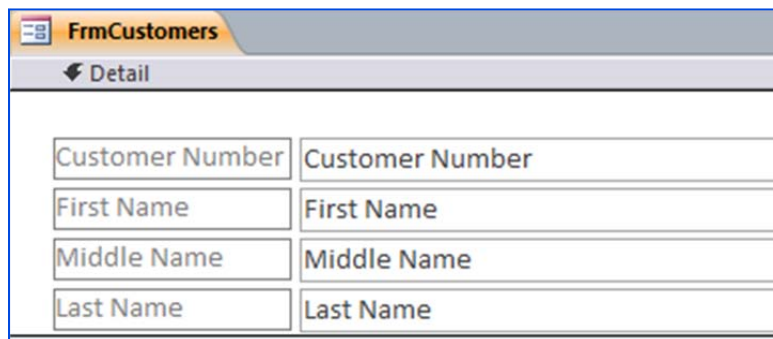

Fig. 2.3.9. Form in Design View
3. Click *Home ribbon -> Views* tab -> *View* and select *Design View* from the dropdown to open the form in *Design View*. The form appears in *Design View*, as shown in Fig. 2.3.9.